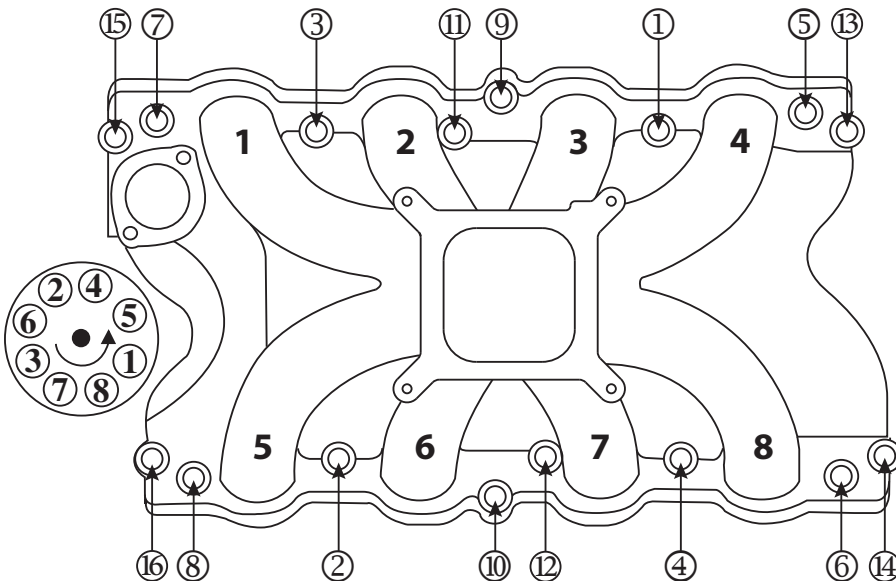

Figure 1 - 429/460 Ford Torque Sequence
5. Install the intake manifold and hold-down bolts. Torque the manifold bolts in two steps by the sequence shown in Figure 1 to 25 ft/lbs.
6. See Figure 1 for Firing Order and Cylinder Numbering.